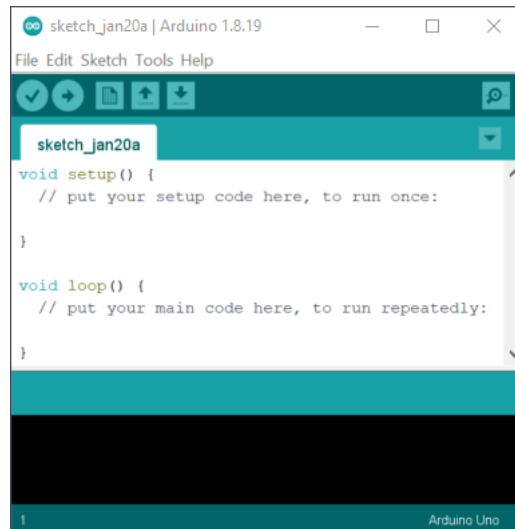

Figure 4.1: This is what the Arduino IDE should load up to.
6. It should load up with a window that looks like Figure 4.1.